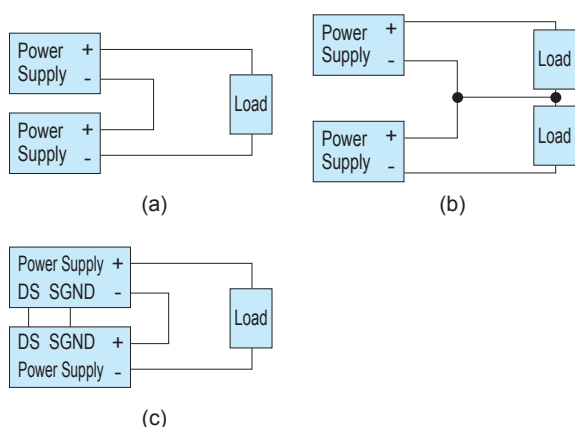

Fig.3.1 Examples of connecting in series operation
■ In the case of Figure 3.1 (C), if one power supply stops or fails, all remaining power supplies also stop.